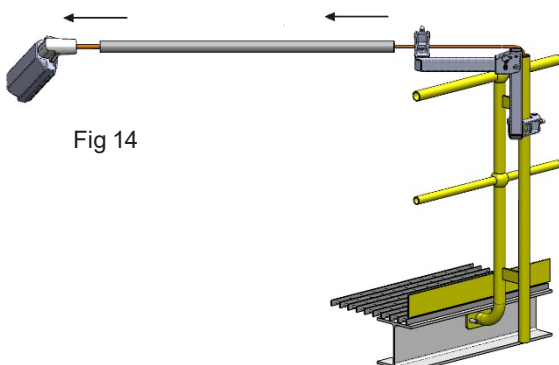

Fig 14
- One person holds the pole top, and second person loosens clamp to allow pole top to be removed (Fig 14), leaving the cable protruding from the pole base.